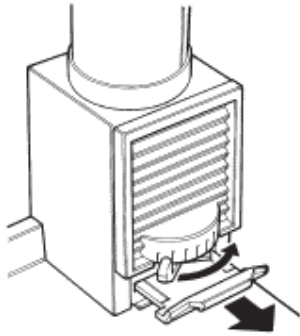

Fig. 7
- f) Open flue chamber damper to maximum (Fig. 7).
- g) Flue dilution lever fully to 'left' (flue chamber door closed, Fig. 7).
Turn the flue dilution lever (See Fig. 7) from left to right hand so that the flue chamber door opens at the bottom and minimise burning rates.